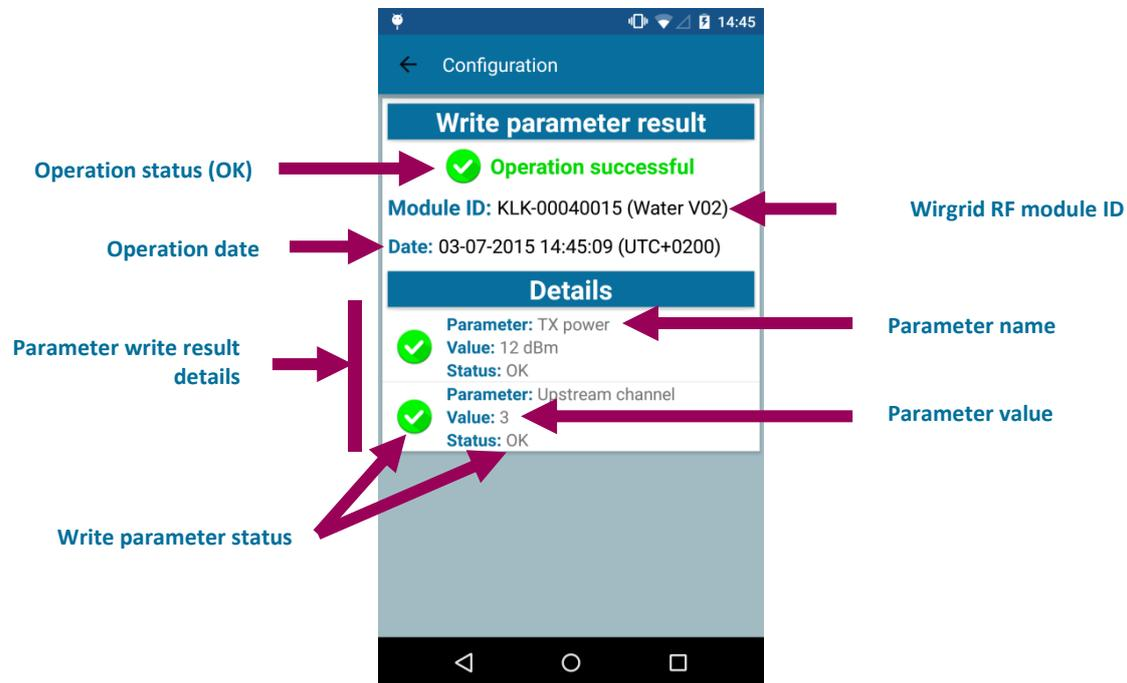

Figure 27: Show parameter write operation details screen
- To get details of the write parameters operation, press “Show details” at the bottom of the screen (see Figure 27).